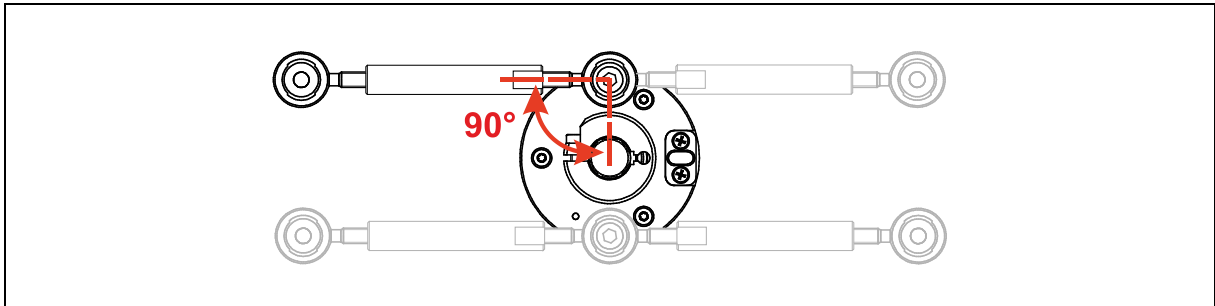

Figure 13: Joint head rod – mounting variants
- For maximum support of the measuring system, the joint head rod must be mounted at a 90° angle to the line connecting the threaded hole to the center of the shaft, see Figure 13.